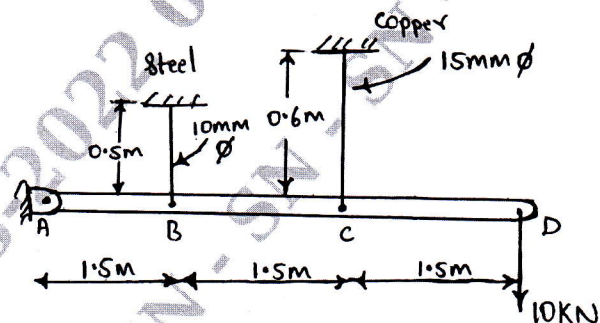

Fig.Q.9(b)
b. A rigid rod ABCD is supported by a hinge at 'A' and two wires at 'B' and 'C' as shown in Fig.Q.9(b). Determine the stresses and elongations of two wires. Take  $E_S = 200\text{GPa}$  and  $E_C = 100\text{GPa}$ . (10 Marks)